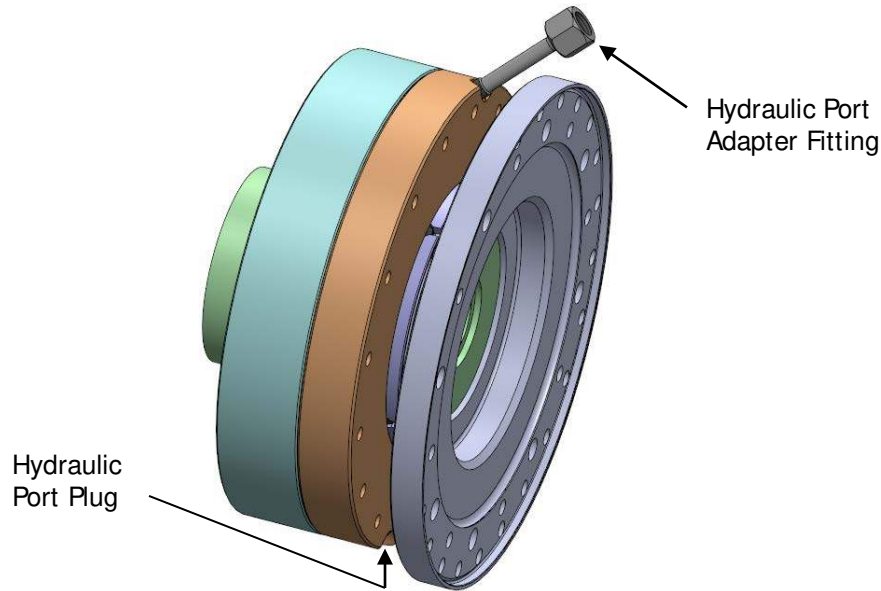

Figure 5 – Port Fittings
3.4.4 Thread the Hydraulic Port Adapter fitting ( Riverhawk PN 2001992) into one of the hydraulic ports on the HTC as shown in Figure 5. The fitting can be used in either port.